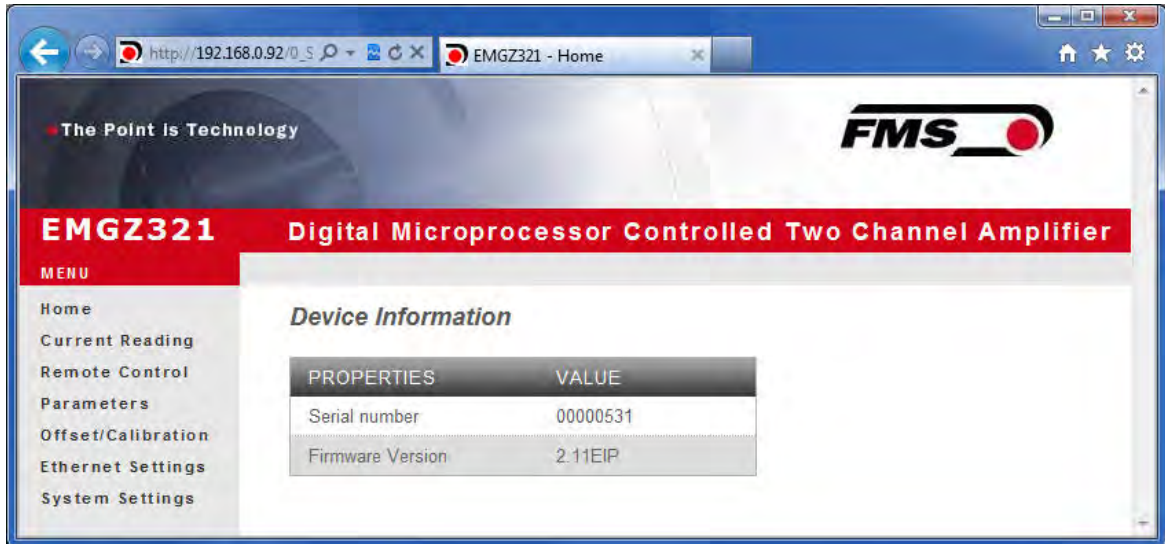

Fig. 29: Serial number and device information
For the integration of an EMGZ321 amplifier in your Ethernet network please contact your IT system administrator. When embedding the EMGZ321 in an Ethernet network it must be certain that the EMGZ321 uses an IP address in a static block (not assigned by the server). Once the amplifier was integrated in the network you can address the device e.g. with <http://192.168.0.090> . After establishing the link, the screen Fig. 29 will open up.
2. The default IP address for the EMGZ321 is **192.168.000.090** as long as it was not changed over the operating penal. Enter the IP address e.g. with <http://192.168.000.090> in the address bar and hit the Enter key. The screen "Device information" **Fig.29** will open up.